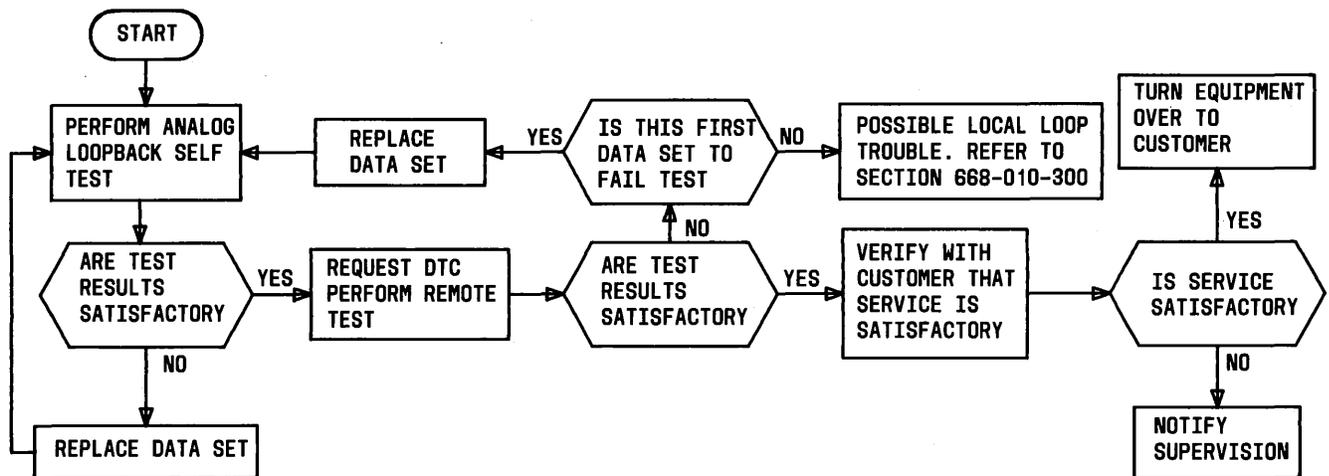

Fig. 2—Installation Test Sequence
2.02 Refer to Fig. 2 for the sequence of tests to be performed to verify proper installation. The 921A DTS is not required for installation testing, but may be used if desired.